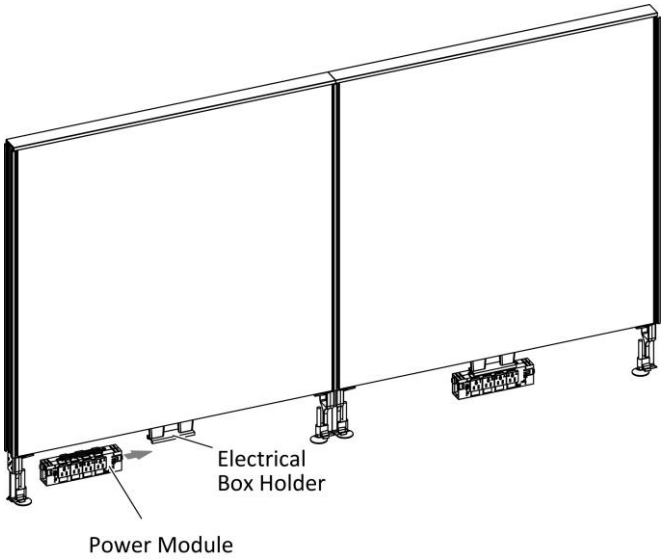

Figure 2
- 3. Slide the power module right or left into the electrical box holder, (Figure 2).